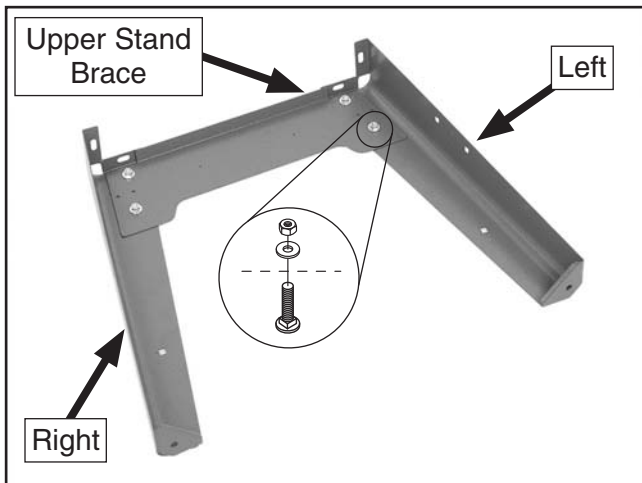

Figure 8. Upper stand brace secured to legs.
1. Attach the upper stand braces to the top holes of the left and right legs with eight M8-1.25 x 12 carriage bolts, 8mm flat washers, and M8-1.25 hex nuts (**Figure 8**). Just hand tighten the fasteners for this step.